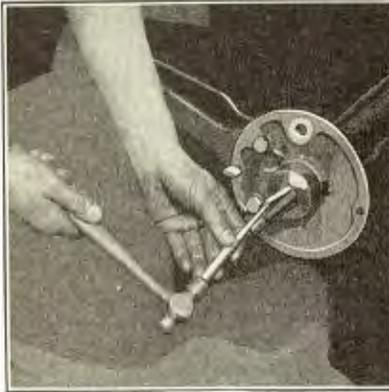
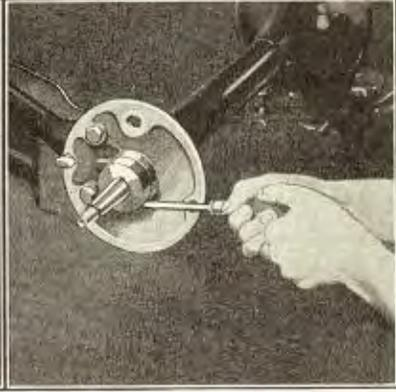

Fig. 318
Fig. 319
- 565** Remove hub key by driving it out of keyway with a small hammer and drift (See Fig. 318). Remove felt retainer by inserting a screw driver between retainer and housing and prying retainer off of housing (See Fig. 319).